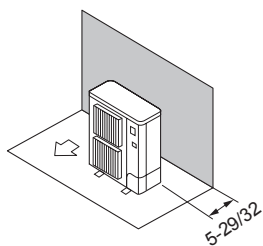

Fig. 2-6
① Obstacles at rear (Fig. 2-6)